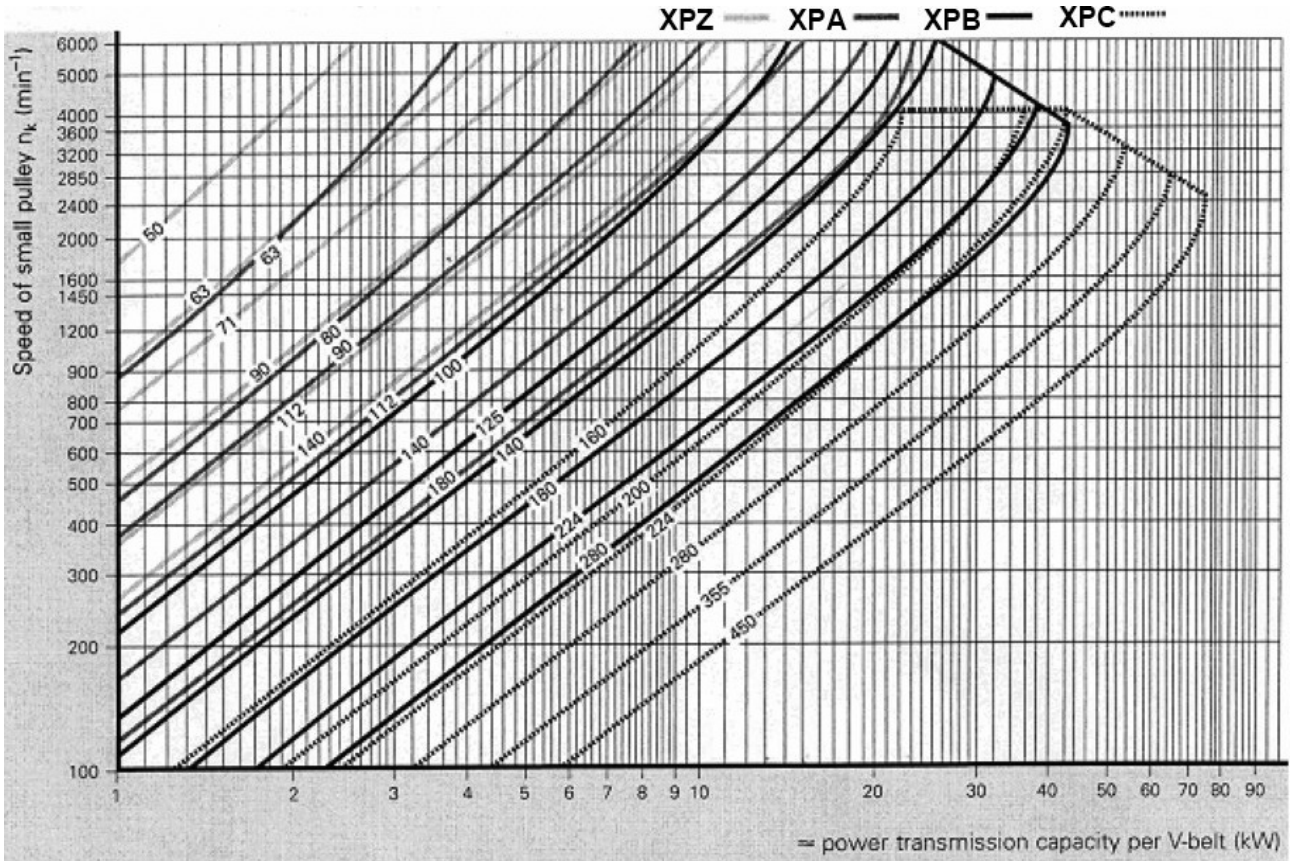
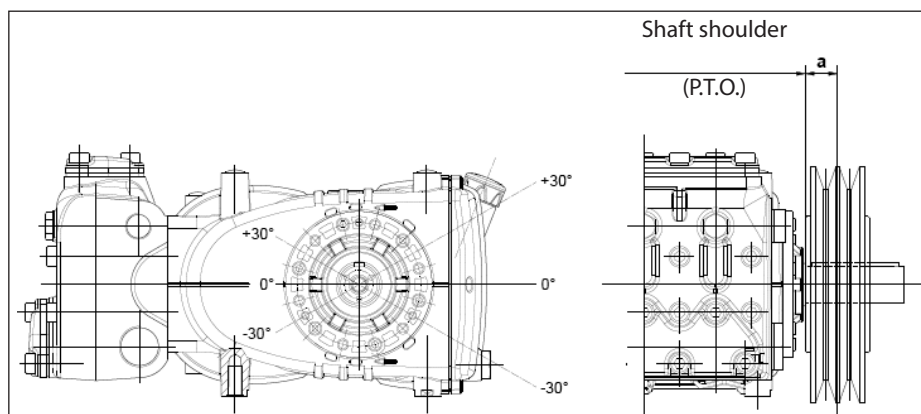

Fig. 7
Fig. 10
For this pump model, we recommend use of 2 XPB belts (16.5x13 serrated). Use an XPC profile only for long durations. Both the characteristics and transmissible power of each belt can be verified in the diagram in Fig. 7, in relation to the number of rpm normally declared by the manufacturer. Minimum duct pulley diameter (on pump shaft): ≥ 160 mm. The radial load on the shaft must not exceed 3000 N (value necessary for Layout definition). The transmission is considered adequate if the load is applied to a maximum distance $a=30$ mm from the shaft shoulder (P.T.O) as shown in Fig. 10.
- b) Use high performance belts – for example **XPB** instead of **SPB** – as a lower quantity of belts for the same transmitted power may be necessary and a consequent shorter resulting distance compared to the shaft shoulder (P.T.O.) "a" of Fig. 10.